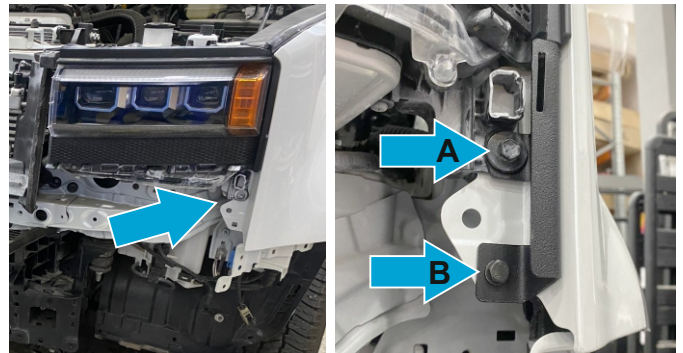

Fig.58
52. Unscrew the OE bolts (A). Install the upper brackets (items 18, 19) on both sides as shown in Fig. 58.